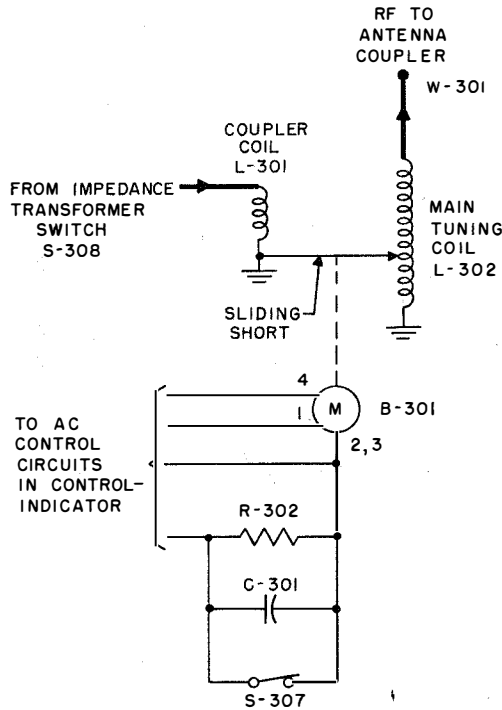

Figure 2-119. Main Tuning Coil L-302, Simplified Schematic
(1) MAIN TUNING COIL.—R-f output to the antenna coupler loading components is connected to the main tuning coil, L-302 (figure 2-119), through the